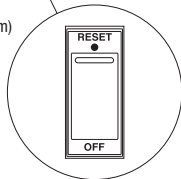

Fig. 5
3. Set illuminated master power disconnect circuit breaker to the (OFF) position (Fig. 5, pg. 7).
9. Set illuminated master power disconnect circuit breaker to the RESET (ON) position (Fig. 5, pg. 7) and measure the output voltage at the power output of each Video Balun/Combiner (Fig. 2b, 2d, pg. 5) before powering each camera to ensure proper operation and avoid possible damage.
10. Set illuminated master power disconnect circuit breaker to the (OFF) position to make the final connections (Fig. 5, pg. 7).
14. Upon completion of wiring set illuminated master power disconnect circuit breaker to the RESET (ON) position (Fig. 5, pg. 7).